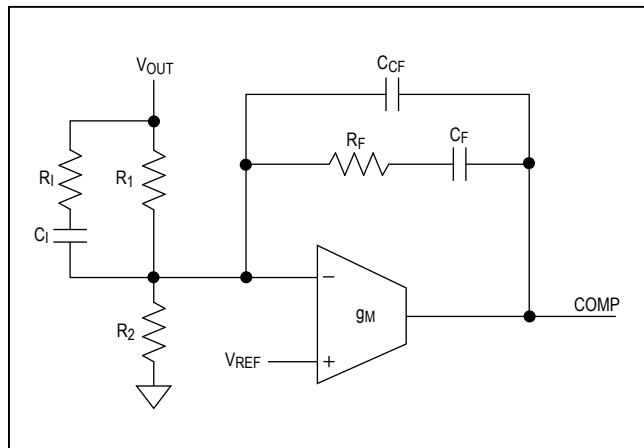

Figure 4. Type III Compensation Network
**Type III Compensation Network (Figure 4)**